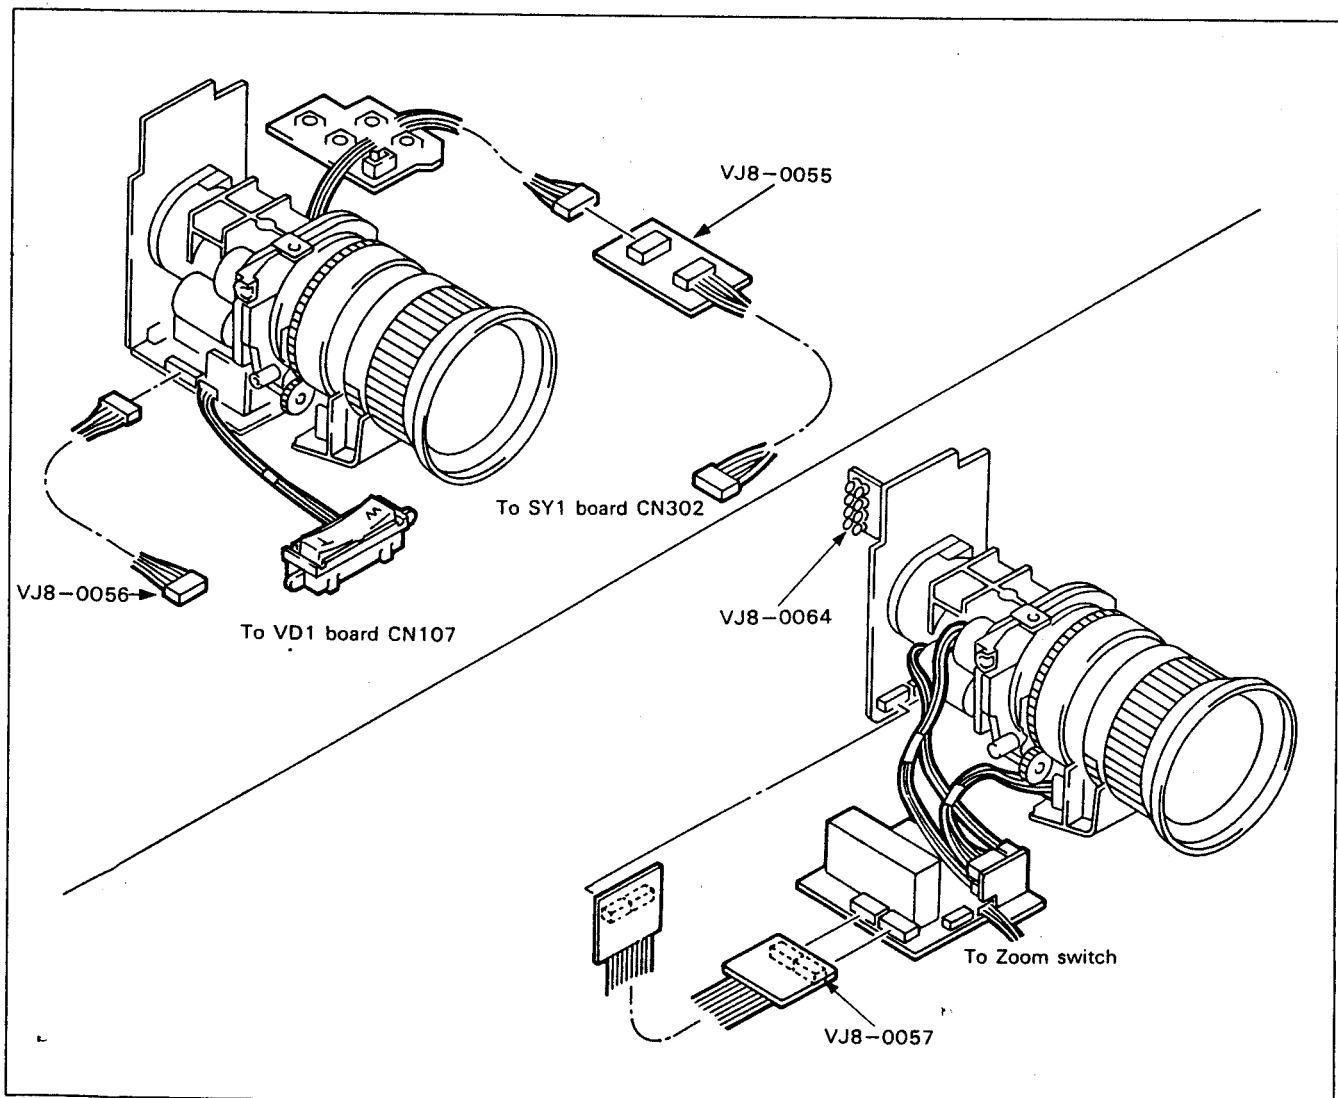

Fig. 1-2.
- 2) Set up the camera as shown in Fig. 1-2.